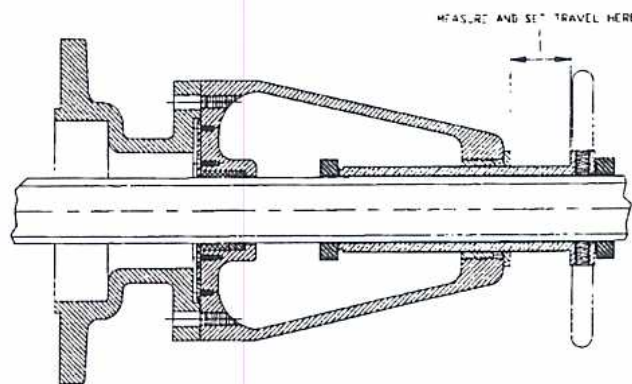

Figure 1
8. Rotate feed screw handles (#12) counterclockwise to back out the feed screw to the desired travel depth which is found on the travel chart (#15), i.e., a 6" tap on a 6" main would require 4  $\frac{3}{4}$ " of travel. Measure the travel distance with a ruler as shown in Figure 1. After travel is set, slide the clamping collars to each side of the feed screw and tighten. Rotate screw handle (#12) one turn counterclockwise to allow the pilot drill to center itself into the water main.